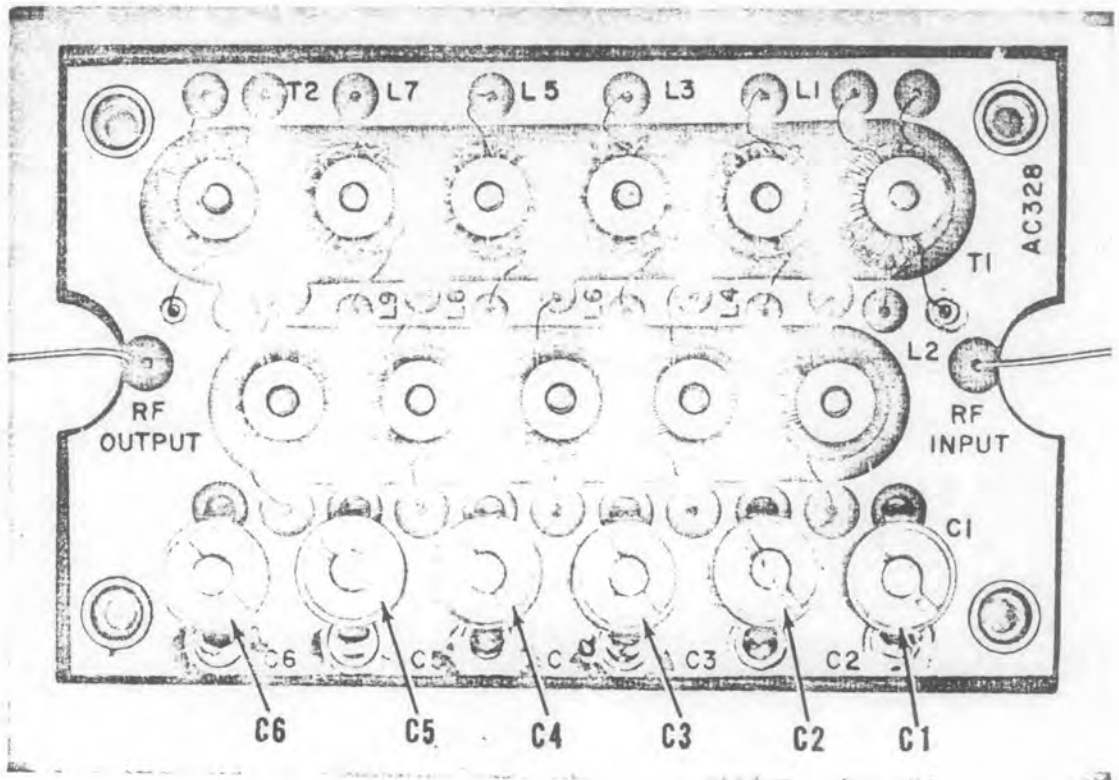

Figure 5-11. Low Pass Filter Module A4
e. Adjust capacitors C1 through C6, on module A4 (refer to Figure 5-11) for optimum flatness below 22.9 mc, and maximum skirt slope above 22.9 mc. The 22.9 mc 1 db point will be on the upper skirt as il-